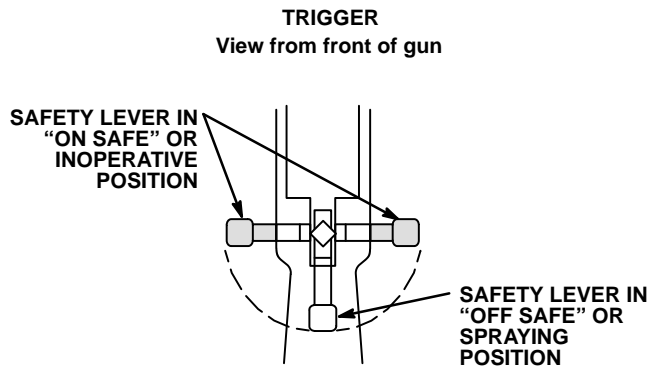

Fig 4 _____
1. *Be sure you know how to operate the trigger safety lever.* Set the lever in the “ON SAFE” position **whenever** you stop spraying. To set the safety lever, point the gun down so the trigger falls forward, then flip the safety lever to the right or left so it is perpendicular to the trigger. This is the “SAFE” or inoperative position. To release the safety lever, flip the lever to the center, so it is parallel to the trigger. This is the “OFF SAFE” or spraying position. See Fig 4.